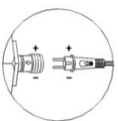

Fig. 1
- Align the notch in fitting with the inner tab on end of Power Supply {Fig. 1}